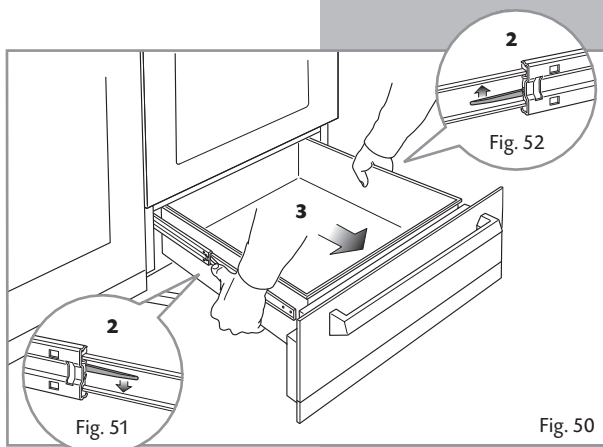

Fig. 50
Removing the drawer (Fig. 50)
1. Open the drawer completely (fig. 50)
3. Remove the drawer; the levers have to be kept moved (fig. 50).